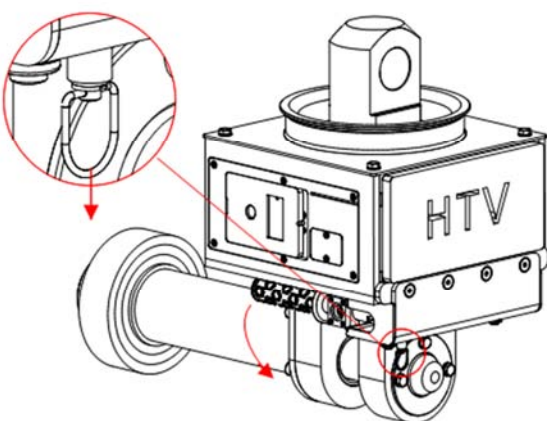
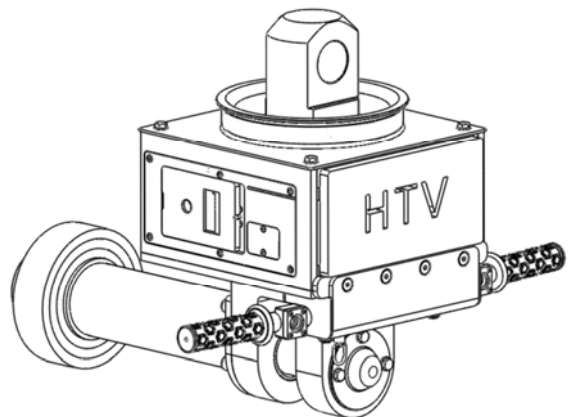

Figure 28 – Handlebar positioner
Figure 29 - Unfolded Handlebars
1. Pull the strap of the handlebar positioner (*Figure 28 – Handlebar positioner*) and unfold the handlebars until the positioner engages the handlebars again so that the two handlebars are aligned (*Figure 29 - Unfolded Handlebars*).